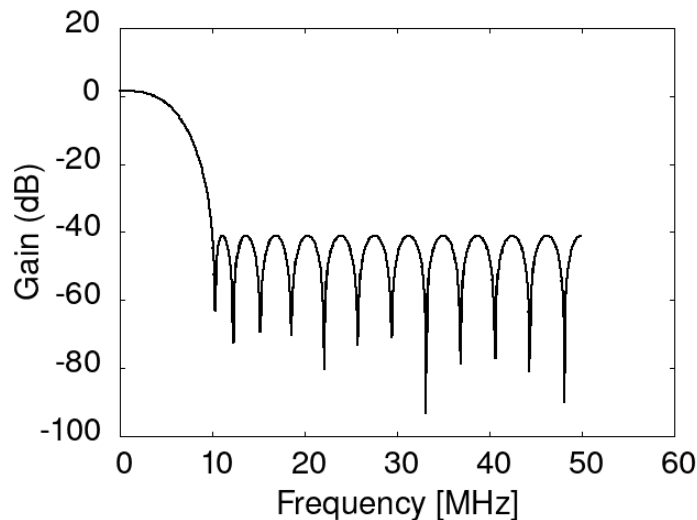

Figure 2: The gain in dB versus frequency of the FIR low-pass filter we will use in this lab activity.
A finite impulse response (FIR) filter takes digitized data as the input, and returns modified data of the same shape as the output. Let  $n$  represent the number of samples of digitized data. Let  $x[n]$  represent the vector of digitized input data, and  $y[n]$  represent the digitized output data. Let  $z^{-1}$  represent an operation that selects the prior sample, or the  $n - 1$  sample relative to sample  $n$ . Let the coefficients  $b_n$  multiply the samples  $x[n]$  as they pass through an amplifier. Finally, let  $\Sigma$  represent an adder that sums to inputs and produces one output. A generalized circuit diagram for the FIR filter is shown in Fig. 2, and the formula relating the input to the output is given in Eq. 1.
The gain versus frequency of our FIR low-pass filter is shown in Fig. 2. Notice that 0 dB means the input and output have the same amplitude and power. A gain of -3 dB implies the output power is half that of the input.
2. If we pass a 1 Volt, 20 MHz signal through our FIR low-pass filter, what will the final amplitude be in (a) dB (according to Fig. 2), and (b) in Volts?